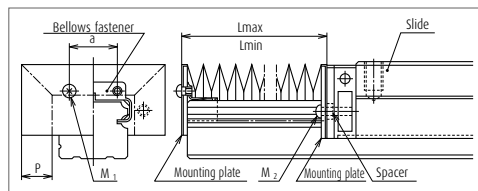

Fig. 7.7
* Fixing to the ball slide (**Fig. 7.7**)
- ▶ Remove two machine screws (M_2) which secure the end seals to the end of the slide (**Fig. 7.7**). For NS15, hold the end cap by hand. Otherwise, the end cap is detached from the ball slide, and the balls inside may spill out.
(5) Bellows
- ▶ To install bellows for NH and NS Series, lightly knock a fastener exclusively for bellows to the end of the rail (**Fig. 7.7**). Then secure the mounting plate to the end of the bellows through the tap hole of the fastener.